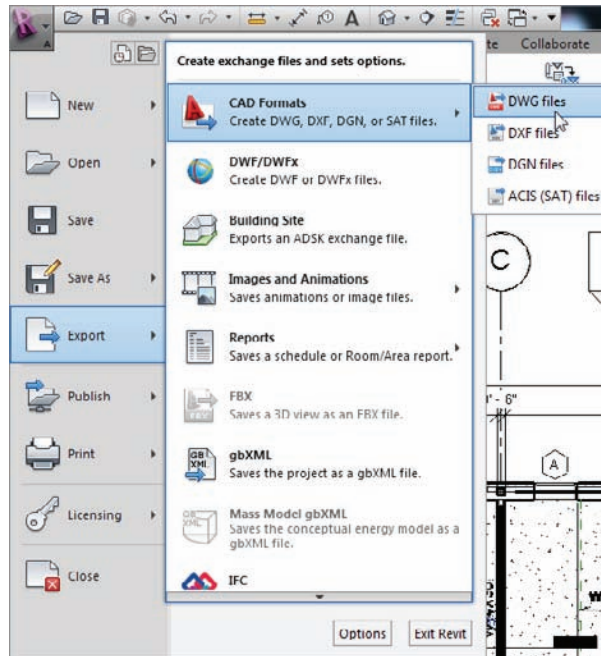

FIGURE 20.25 Exporting the model to CAD
2. Click the Application button, and select **Export > CAD Formats > DWG Files**, as shown in Figure 20.25.